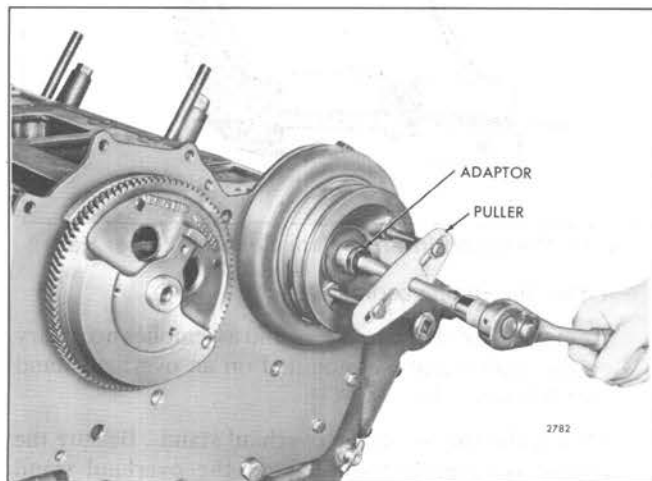

Fig. 3 - Removing Camshaft Pulley
11. Attach puller J 24420-A to the camshaft pulley. Use adaptor J 7932 between the end of the camshaft and the pulley screw to protect the end of the camshaft (Fig. 3).
7. If a left bank camshaft is to be removed, attach puller J 24420-A to the camshaft pulley. Use adaptor J 7932 between the end of the camshaft and the pulley screw to protect the end of the camshaft (Fig. 3).